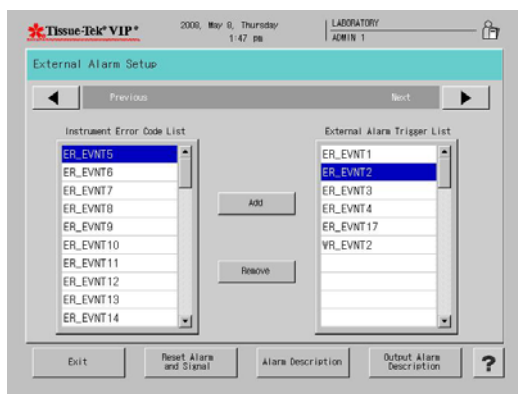

Figure 3-X
- The External alarm and Signal Setup screen displays (Figure 3-X).